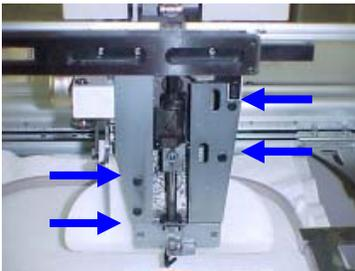

Fig. 6
1. Remove the left and right arm guard plates. There are four flat head screws, two in each plate. See fig.6.